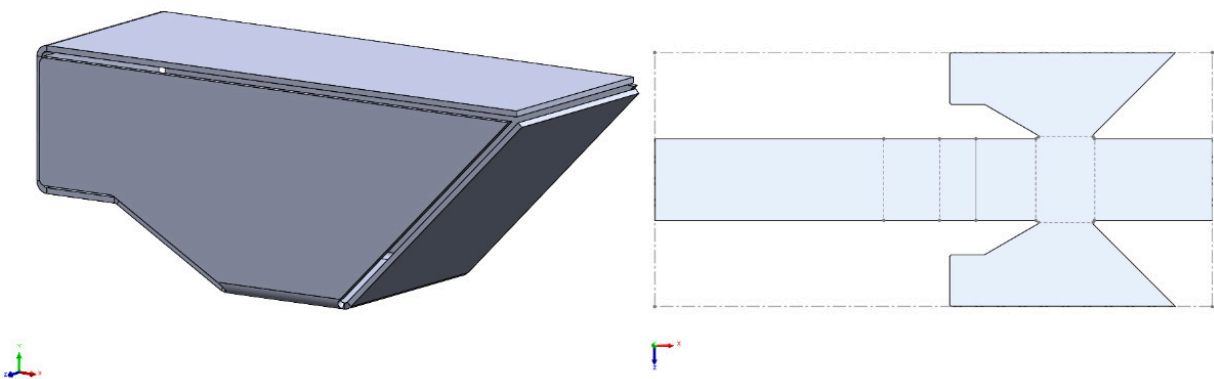

Figure 12.13: The completed part
5. Press the green **OK** check mark to update the feature and we can now see that the entire shape has been converted to a Sheet Metal part. This is shown in Figure 12.13 in both a Flattened and Unflattened state.